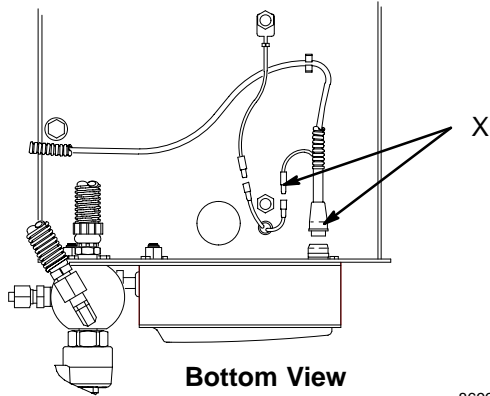

Fig. 5 8699A
11. Fig. 5. Connect field cable (X) to pressure control.